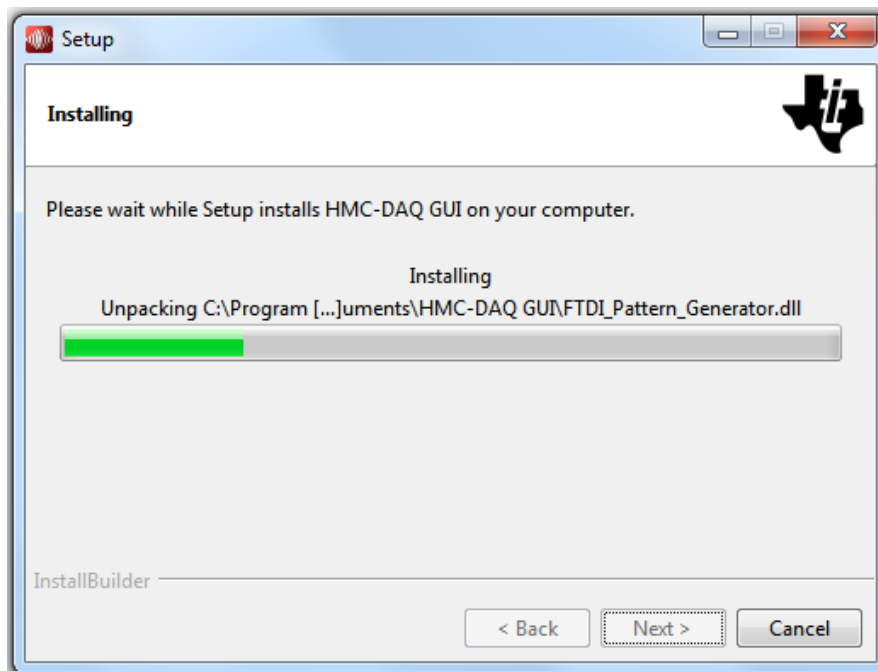

Figure 39. HMC-DAQ GUI Install (Installation Progress)
- The window shown in Figure 39 appears showing that the installation is in progress.